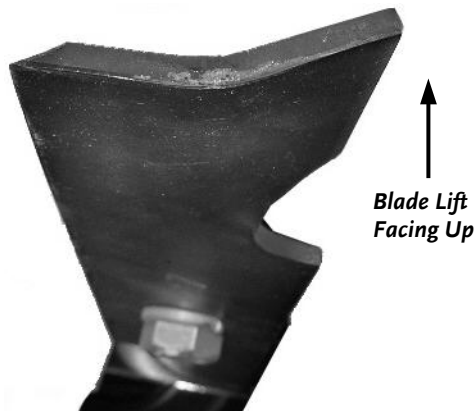

Figure 17
4. Reinstall the Blades with the Lift (turned up) portion (**Figure 17**) facing up. Tighten the Blade attaching Bolts securely.